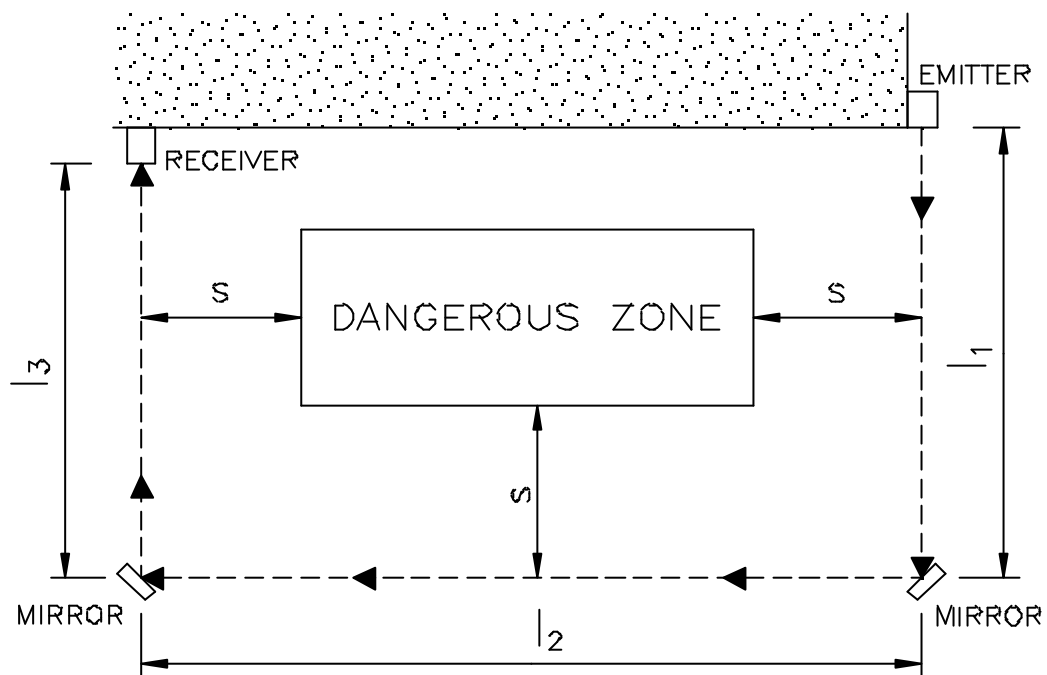

Figure 13
- Place the mirrors so as to ensure compliance with the minimum safety distance **S** (Figure 13) on every side from which the danger zone can be accessed.